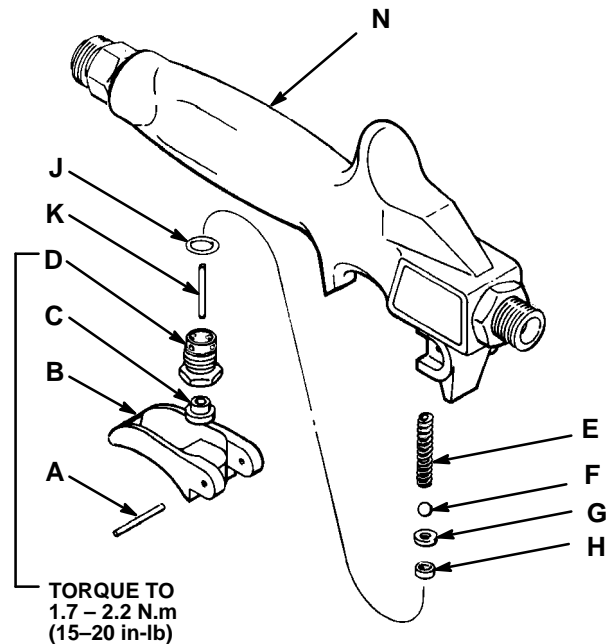

Fig 6
1. Tap out the pin (A) and slide the trigger (B) off of the valve. See Fig 6.
2. Remove the cap (C). Unscrew the fluid housing (D). See Fig 6.
3. Pull the needle (K) out.
4. Tap the seat (G) out of the roller valve (N). See Fig 6.
5. Remove the ball (F) and spring (E). See Fig 6.
12. Install the spring (E) in the spring cavity of the valve handle, then install the ball (F) so it is centered on the spring. See Fig 6.
13. Place the o-ring (J) around the fluid housing. Pushing lightly with your fingers, start the threads of the housing into the valve handle. Torque the housing to 1.7-2.2 N.m (15-20 in-lb). See Fig 6.
15. Grease the cap (C) and place it on the end of the needle. See Fig 6.
16. Slide the trigger (D) into place. Install the pin (A). See Fig 6.